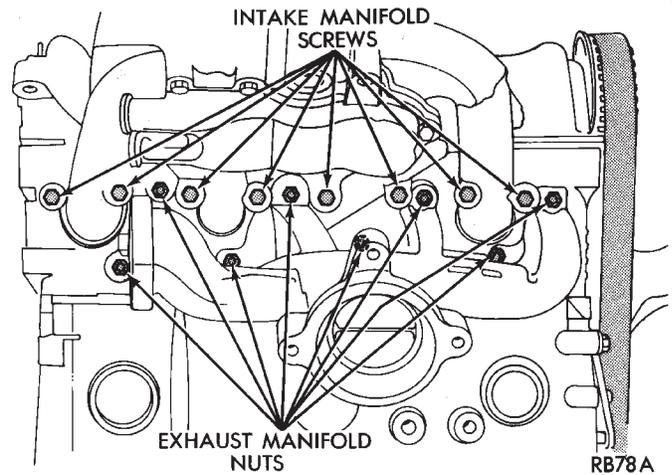

Fig. 9 Intake and Exhaust Manifold Attaching Points—2.5L Engines
- (8) Raise vehicle and remove exhaust pipe from manifold.
- (9) Remove power steering pump assembly and set aside.
- (10) Remove intake manifold retaining screws (Fig. 9).
- (11) Lower vehicle and remove intake manifold.
- (12) Remove exhaust manifold retaining nuts (Fig. 9).
- (13) Remove exhaust manifold.
(1) Install a new intake and exhaust manifold gasket. Coat steel gasket lightly with Gasket Sealer on manifold side. **Do not** coat composition gasket with (any) sealer.
(2) Set exhaust manifold in place. Tighten retaining nuts starting at center and progressing outward in both directions to 23 N•m (200 in. lbs.) (Fig. 9). Repeat this procedure until all nuts are at specified torque.
(3) Set intake manifold in place.
(4) Raise vehicle and tighten retaining screws starting at center and progressing outward in both directions to 23 N•m (200 in. lbs.) (Fig. 9). Repeat this procedure until all screws are at specified torque.
(5) Reverse removal procedures 1-9 for installation.
(6) With the DRB II use ASD Fuel System Test to pressurize system to check for leaks.